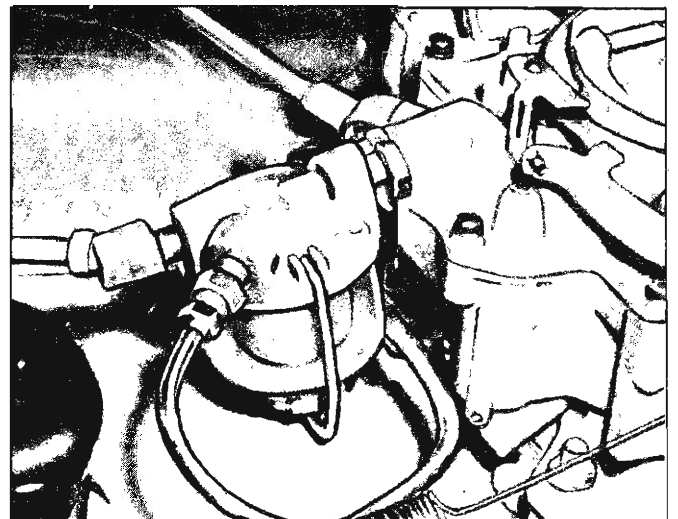

Fig. 12—Fuel Filter Installed
**Glass Bowl Fuel Filter (Fig. 12)**